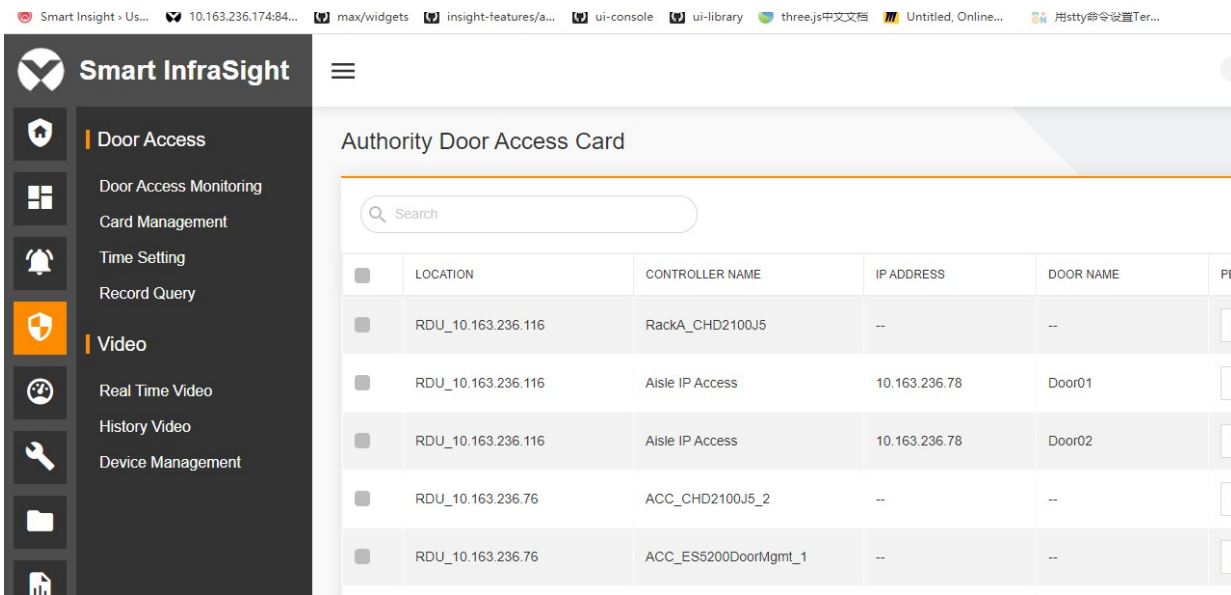

Figure 13-37 Card authorization
1. Click  on the right side of the card and select **Permission** from the pop-up drop-down menu. The **Authority Door Access Card** page is displayed, as shown in Figure 13-37. The page displays all door access devices and the corresponding permissions in the system. The **PERMISSION GROUP** column displays the permissions of the selected card (including **No Permission, Privilege, Group 1, Group 2, Group 3, and Group 4**).